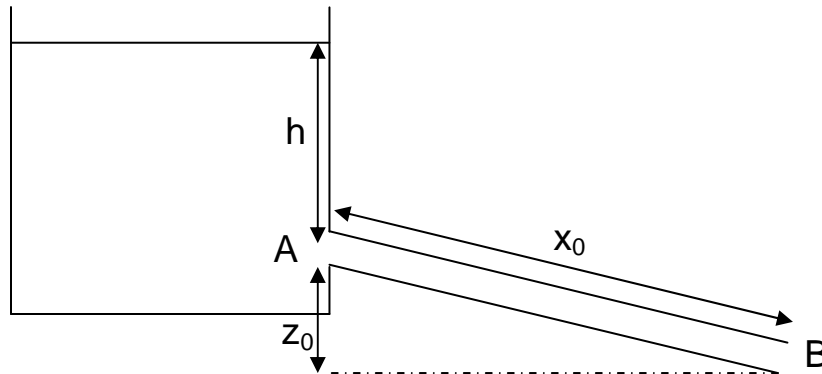

Fig. 2b
- (b) $\rho = 917 \text{ kg/m}^3$ feeds the flow in an inclined pipe as shown in Fig. 2b. Given that $h = 3.0 \text{ m}$, $z_0 = 0.5 \text{ m}$, $x_0 = 1.0 \text{ m}$ and $R = 0.01 \text{ m}$, find the maximum flow velocity U_{\max} in the pipe.